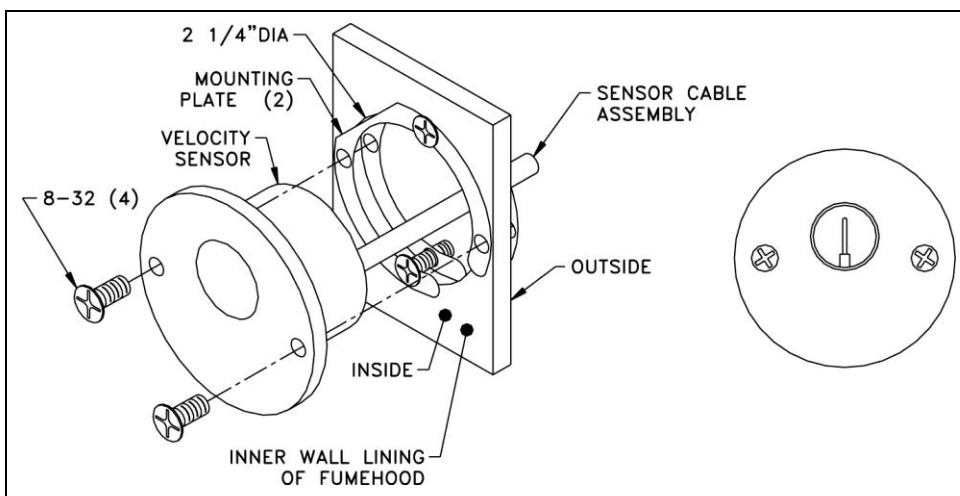

Figure 5: Mounted Velocity Sensor
9. The mounted VELOCITY SENSOR must look like Figure 5.